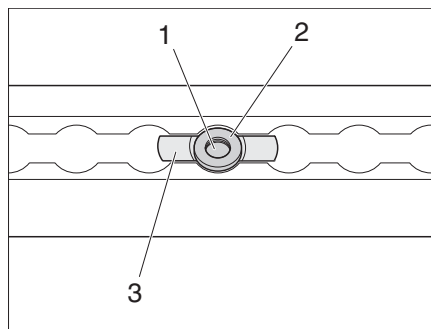

Fig. 26 Removing the slot nut
- Loosen the screw (Fig. 26,1) in the slot nut with a Torx spanner.
- Move the slot nut (Fig. 26,3) in the grid until the red centring washer (Fig. 26,2) can be removed.
- Remove the slot nut (Fig. 26,3).